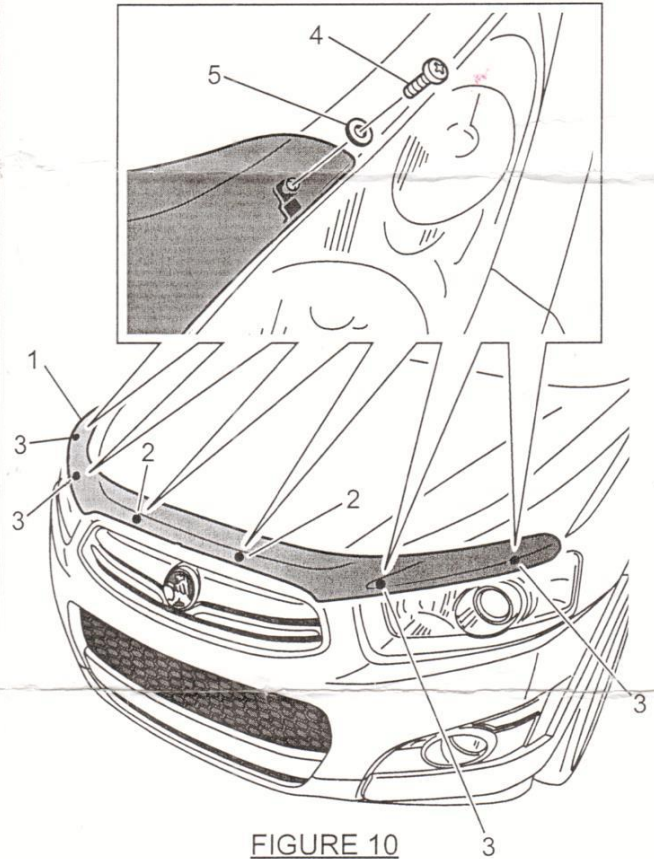

FIGURE 10
10. Secure the Bonnet Protector (1) centrally to the centre wing clips (2) and then to the outer wing clips (3) using the small screws (4) and black washers (5) provided. Refer to Figure 10.